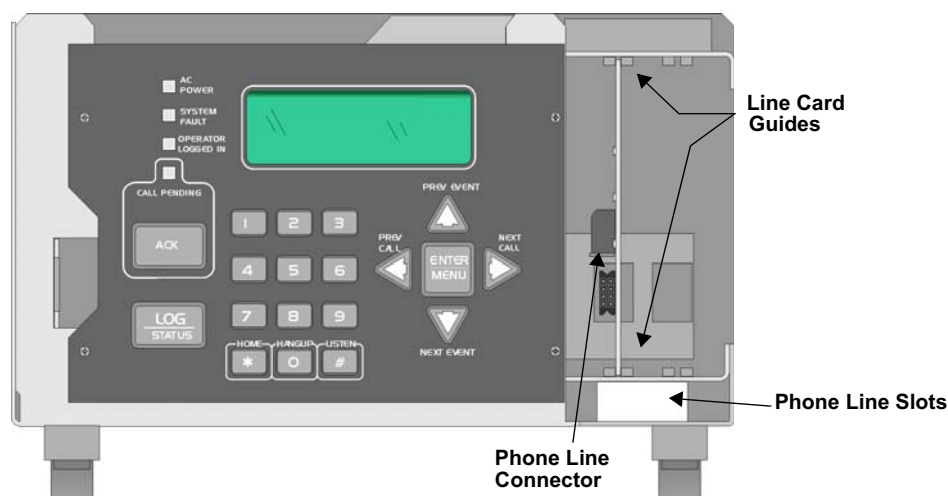
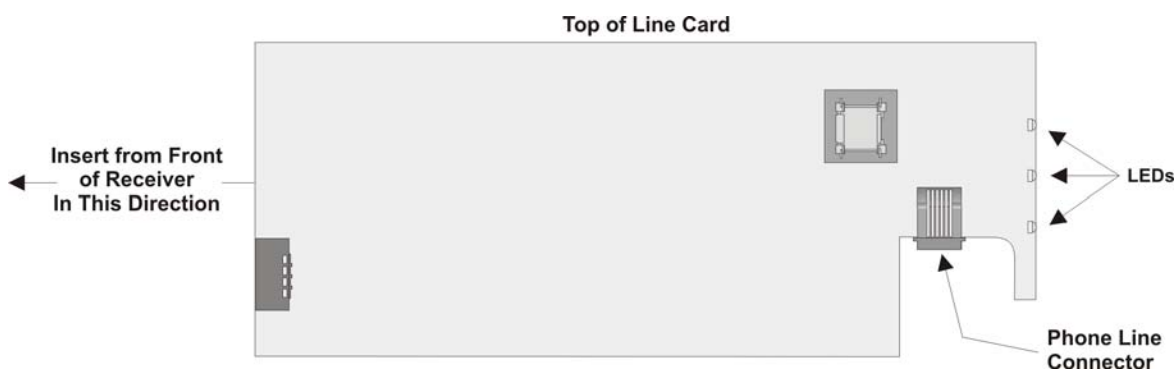

Figure 3-5 Line Card Locations
Figure 3-6 Line Card Position and Components
3. When the cover removed, you will see that there are 2 slots for line cards. The receiver recognizes each slot by number 1 and 2 (slot one is closest to the keypad and display). It is not necessary to put line cards in numbered order because the receiver continually polls each slot to see if existing line cards are functioning and if it is still in its slot. The receiver also looks to see if a new line card has been added. Figure 3-5 shows how to position each line card for installation.
4. Position the line card as shown in Figure 3-6.
5. Carefully slide the line card into its guides (both top and bottom) until it fits into its connector at the back of the receiver. Gently push the line card as far into the connector as you can. The line card is now in place. See Figure 3-5.
4. Unplug the telephone line. (See Figure 3-5 and Figure 3-6.)
2. From the back side of the receiver insert the telephone line through the corresponding slot for the desired line card. (See Figure 3-5 and Figure 3-6 for phone line slot locations.)
4. Plug the RJ-11 phone connector into the connector on the line card. (See Figure 3-5 and Figure 3-6.)